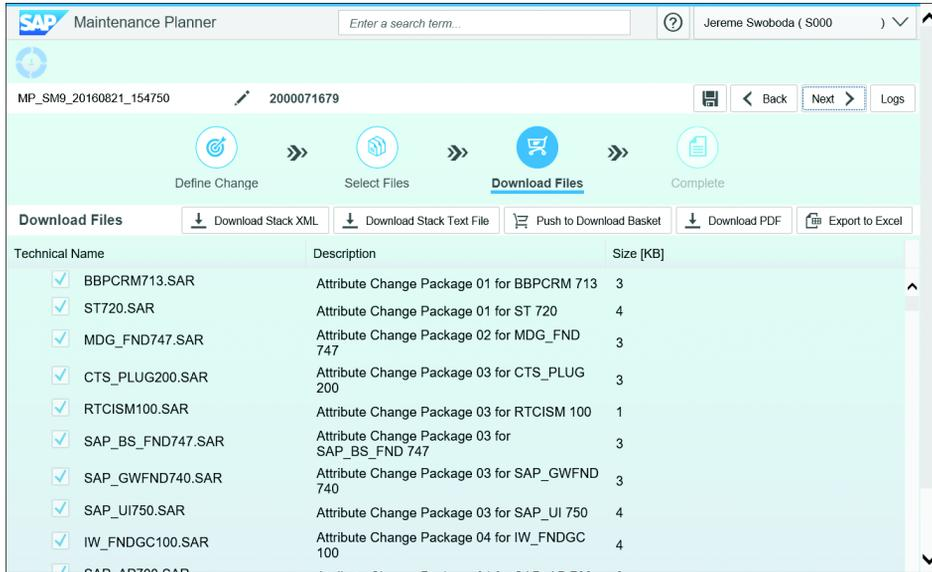

Figure 36 Download XML and Push to Download Basket
5. From the next screen (see Figure 36), select **DOWNLOAD STACK XML** to retrieve the XML file. Then, select **PUSH TO DOWNLOAD BASKET**; this will insert all of the required media for the upgrade into your download basket. From there, use the Download Manager to download the media to the operating system level of the SAP SolMan host to be upgraded. You can also download a PDF that describes the upgrade and who executed the maintenance transaction. Click **NEXT** when finished.